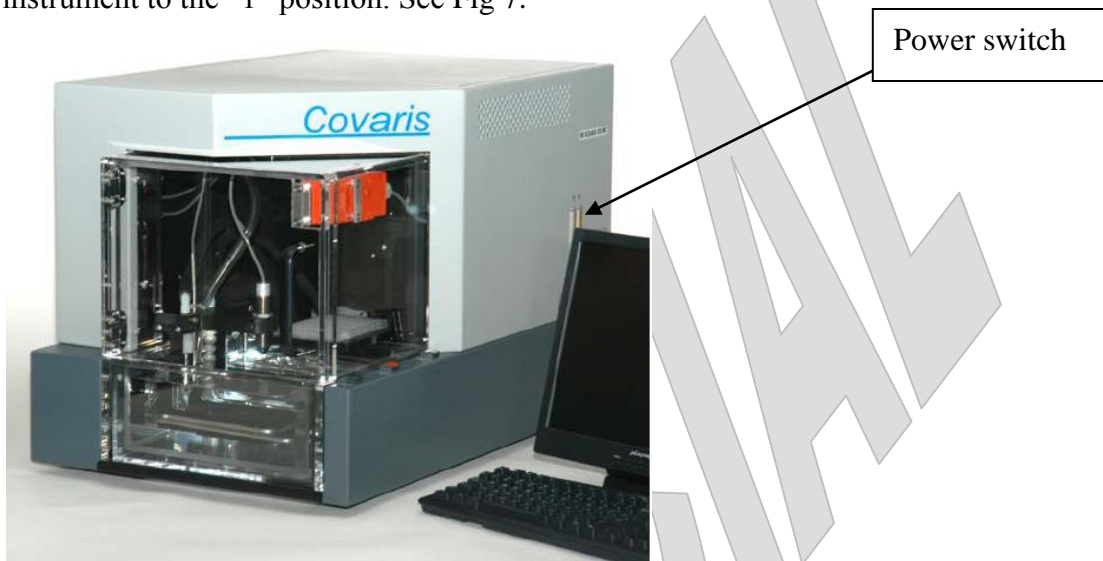

Figure 7: Covaris LE-series
2. If the LE220 is powered off, power it on by flipping the switch located on the right of the instrument to the “1” position. See Fig 7.